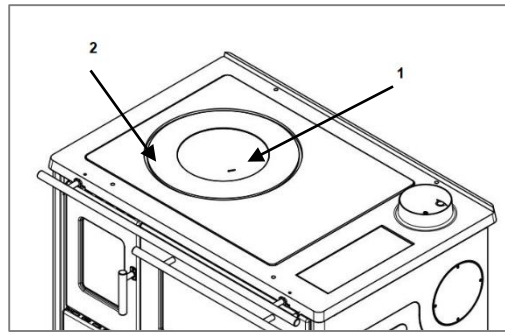

Figure 7
- Remove cooking plates 1 and 2 (see figure 7) and clean them thoroughly. The cooking plates are made of gray and enamelled cast iron. First, they need to be wiped with a damp cloth, then with a dry one. Never use sandpaper because it can remove the enamel.